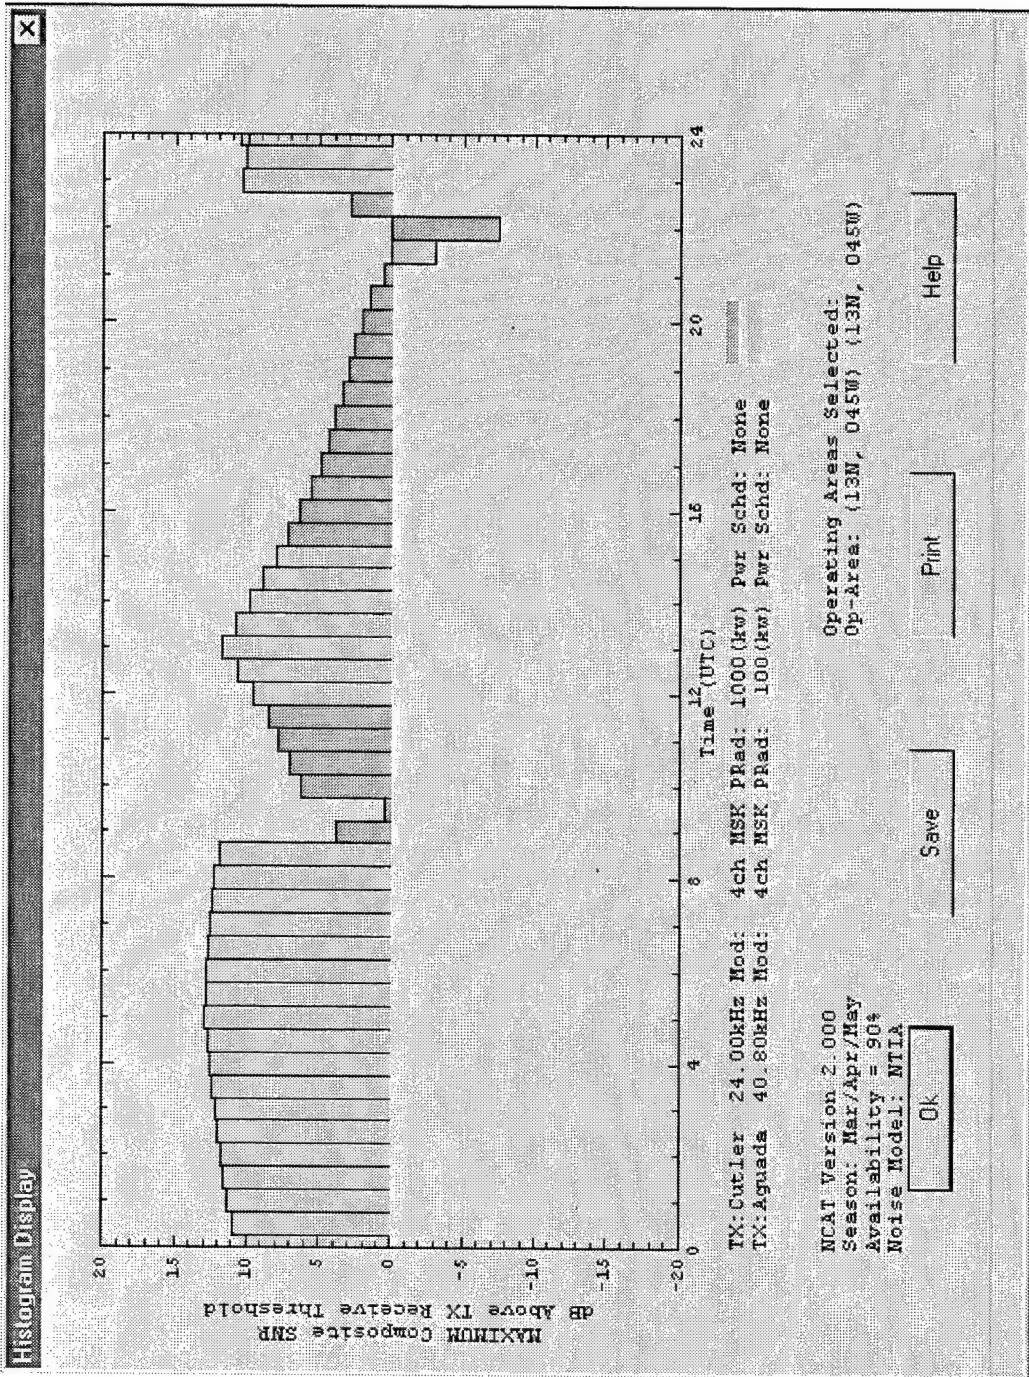

Figure 21. Example of a maximum composite SNR plot.
- A maximum composite SNR plot of the selected operating areas and transmitters selected. To perform a maximum composite plot, select Run Scenario -> Show SNR Composite (MAX).... Figure 21 shows an example of a maximum composite SNR chart.